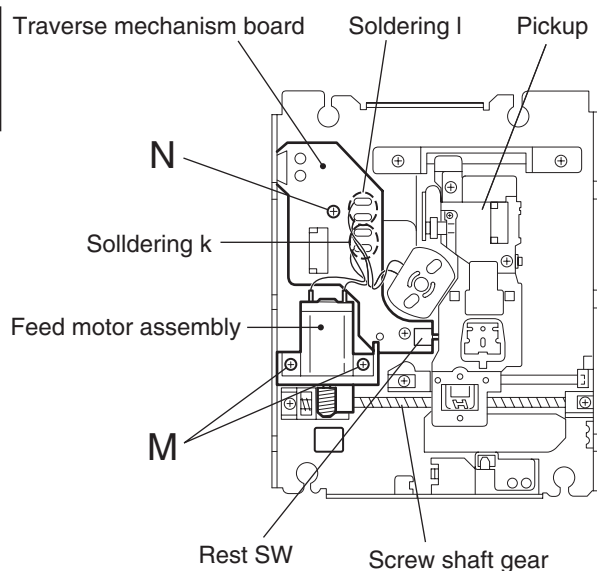

Fig.19
■ Removing the feed motor assembly (See Fig.19,20)
■ Removing the traverse mechanism board (See Fig.19)